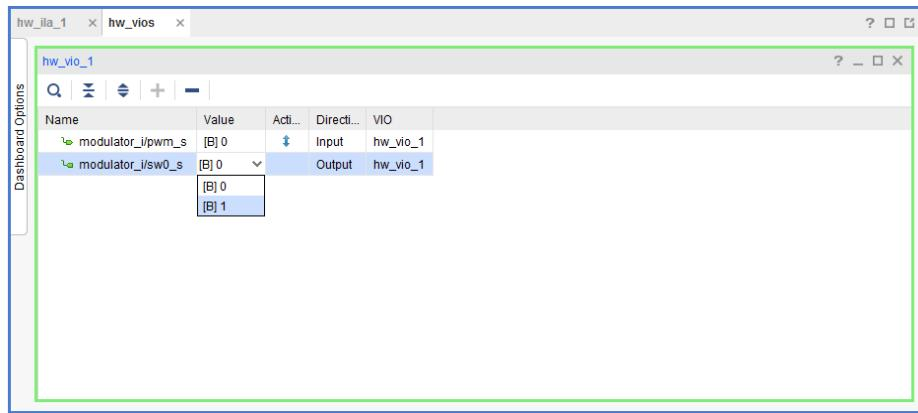

Figure 11.37: Changing the sw0_s value
In the VIO Probes window, you can observe the rate of change of the **pwm_s** signal. You can change the frequency of the **pwm_s** signal by changing the value of the **sw0_s** probe from 0 to 1 and from 1 to 0, see Figure 11.37. The default **sw0_s** value is 0.
12. Turn back to the VIO Probes window and change the **Value** of the **sw0_s** signal from **0** to **1**, see Figure 11.37.